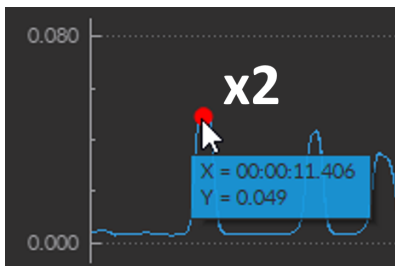

Figure 11.15: *Instantaneous Value*
- **Instantaneous point** - *Double clicking* (Fig. 11.15) on any element of the trace within a graph adds a red dot over that section. Mousing over the dot with the cursor displays the X- and Y-coordinates of the data point. These data points are strictly a visualization tool and their coordinates will not be saved with the rest of the data. To remove a created dot double-click on it a second time.